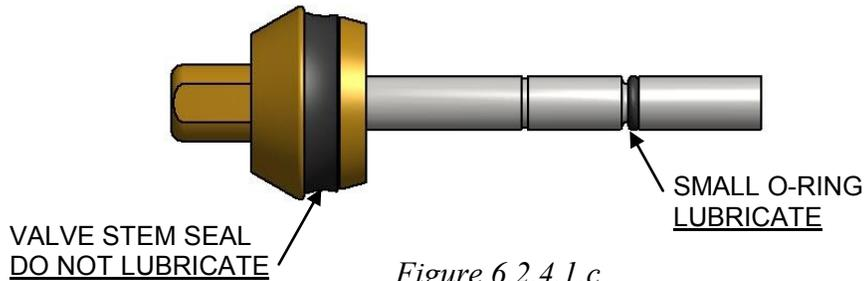

Figure 6.2.4.1.c
13. Reinstall Valve Stem, Spring (P/N 10097) and Washer (P/N 10102) (See Figure 6.2.4.1.a). Apply one drop of medium grade thread locking compound to Screw threads (P/N 10732). Compress washer well below top of Agent Cylinder Valve while holding the bottom of the Valve Stem Cup with a 5/16" open end wrench and install Valve Stem Screw using a 1/8 inch hex wrench. Release spring and washer and torque Valve Stem Screw securely to 25 in-lbs. Press down on the stem assembly verifying that it travels freely to open/close the Agent Cylinder Valve.